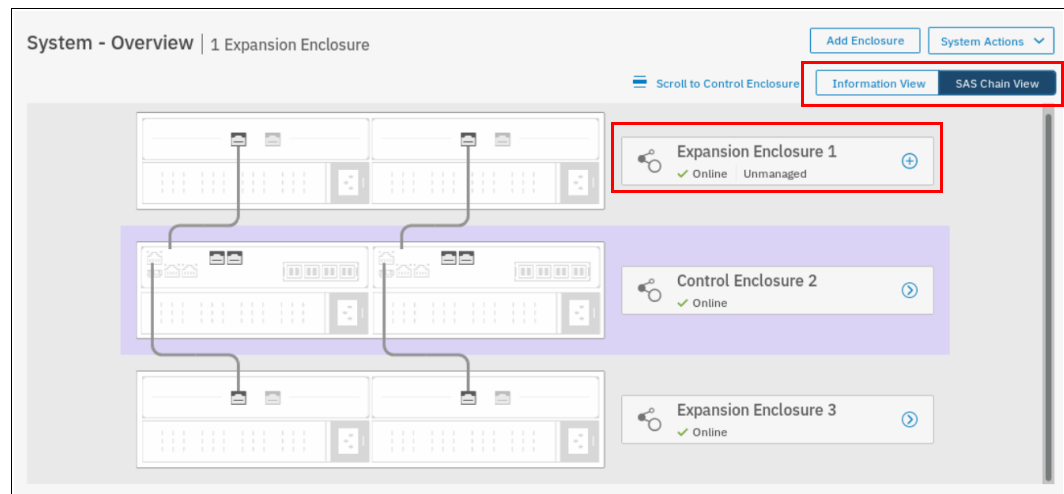

Figure 4-130 Newly detected expansion enclosure
1. In the System window that is available from the Monitoring menu, select **SAS Chain View**. Only correctly attached and powered on enclosures appear in the window, as shown in Figure 4-130. The new enclosure is showing as unmanaged, which means it is not part of the system.